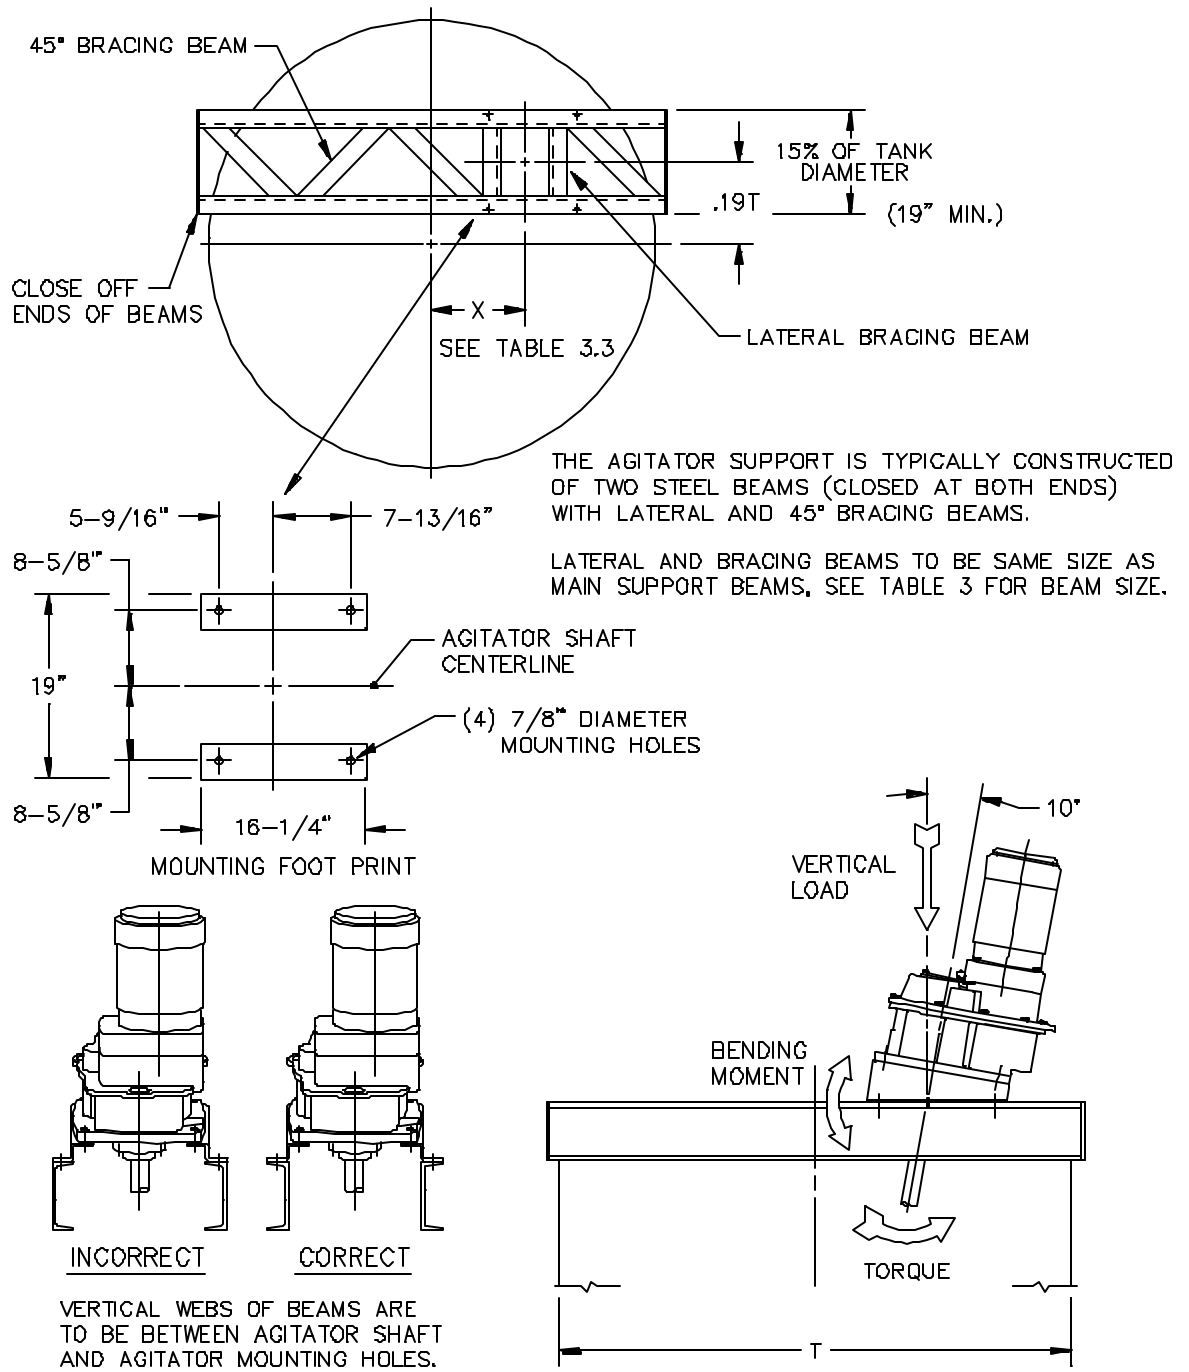
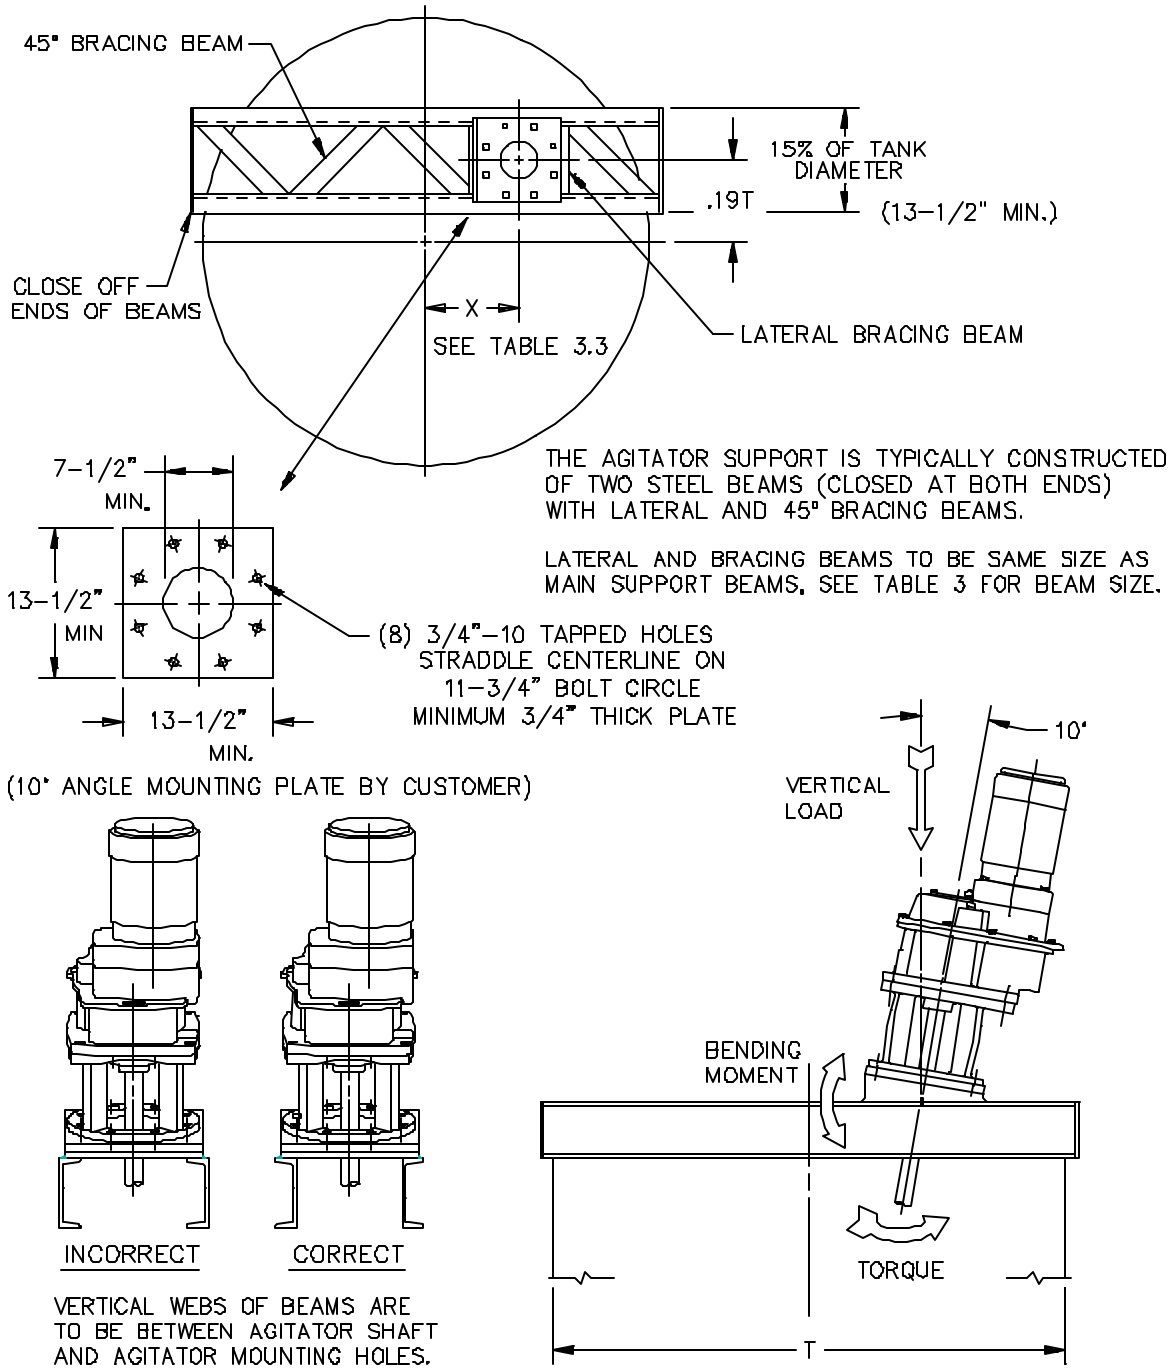

Figure 3: Angle Riser Mounting - GTD
Figure 5: Angle Mounting - GTP
GTD and GTP (open tank) style units usually mount separately from the tank on either a steel structure or a concrete slab over the tank. The steel structure for open tank mounting is typically constructed of two main support beams, with lateral and diagonal bracing, spanning the tank. See *Figure 3, page 4 (GTD)* or *Figure 5, page 6 (GTP)*.
*Table 3, page 7, Recommended Beam Sizes* is keyed to model, a case size and tank diameter. Select the appropriate beam size for your application. Beams of equivalent section modulus and moment of inertia and/or modulus of elasticity can be used. See *Figure 3, page 4 (GTD)* or *Figure 5, page 6 (GTP)* for positioning the gear drive relative to the flange on the beams. Refer to *Table 2, page 7* for mounting dimensions.
The structural arrangement is shown in *Figure 3, page 4*. See *Table 3, page 7* for recommended beam size.
Case size 1 and 2 GTP agitator drives, furnished with 10E angle mounting option, may be angle mounted. The structural arrangement is shown *Figure 5, page 6*. See *Table 3, page 7* for recommended beam size.